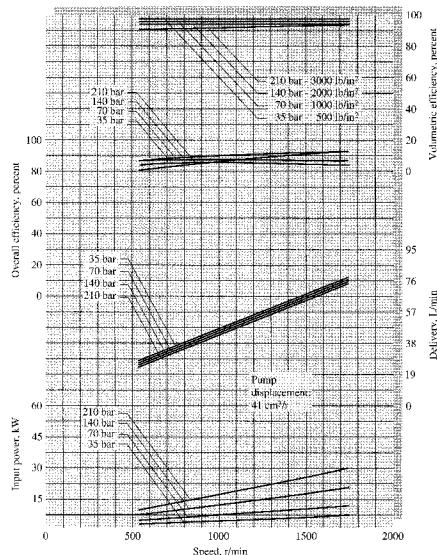

Fig. P11.9
**11.73** The piston pump of Fig. P11.9 (at right) is run at 1500 rpm to deliver SAE 10W oil through 100 m of vertical 2-cm-diameter wrought-iron pipe. If other system losses are neglected, estimate (a) the flow rate; (b) the pressure rise; and (c) the power required.